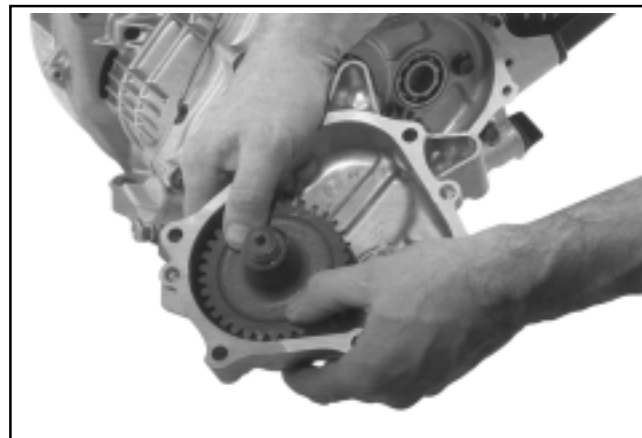

Figure 11-50. Installing Output Shaft Assembly.
- Lubricate the bearing surfaces with oil, and install the output shaft/gear assembly into the cover. See Figure 11-50.